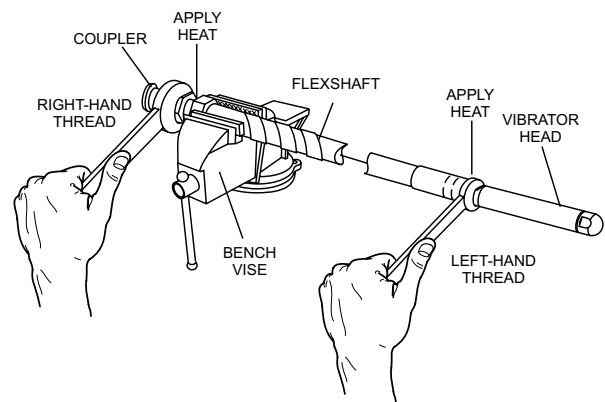

Figure 10. Removing Wire Core
4. Using a bench vice and wrench, remove coupler from flexshaft as shown in Figure 10. Please note threads are **right-handed** on this side of the flexshaft (drive motor end).
6. Next, using a wrench and bench vise if necessary, remove flexible shaft from vibrator head as shown in Figure 10. Please note threads are **left-handed** on this side of the flexshaft (vibrator end).